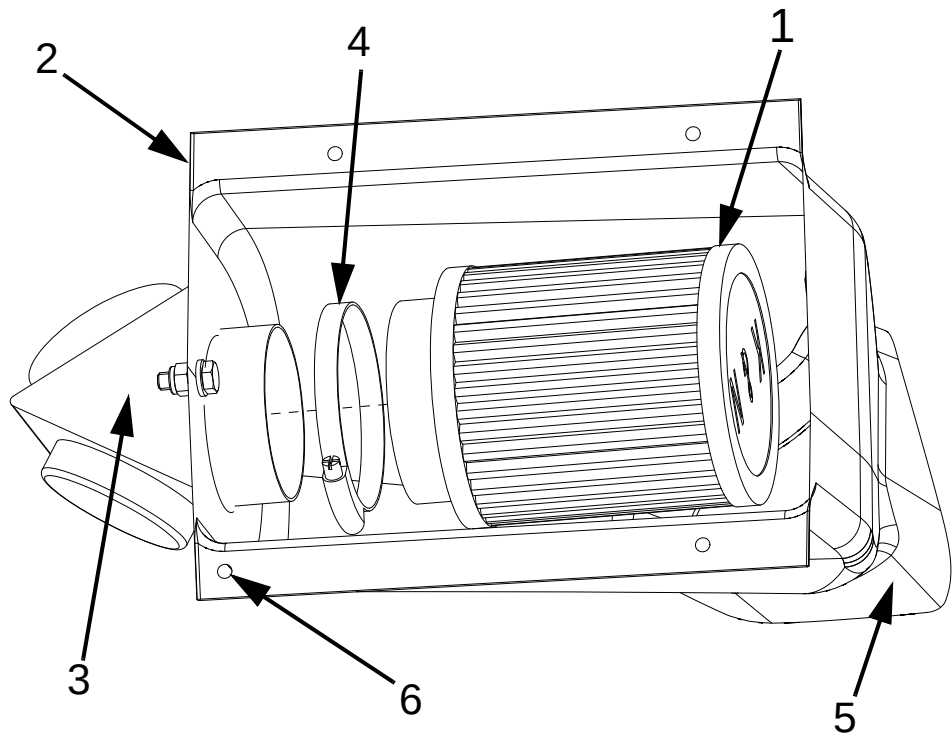

Fig. 71-14a Air Filter Housing, Air Filter and Alternate Air Door
The alternate air door is attached to the left (in the direction of flight) of the air filter housing. The air filter attaches to the right (in the direction of flight) of the alternate air door. The alternate air door has an inlet direct from the engine compartment. A flap in the alternate air door can select either filtered or warm, unfiltered air. See Fig. 71-14a.
The air filter housing is made of GRP. It has a connection between the air intake assembly and the upper cowling. Four cylindrical bolts attach the air filter housing to the firewall. See Fig. 71-14a.
The air filter is a K&N RU-0610 high-flow air filter. The air filter locates on the air filter housing, on the right of the firewall. It is held to the left (in the direction of flight) of the alternate air door by a clamp. See Fig. 71-14a.
- (1) Remove the engine cowlings. Refer to the airplane manufacturer's specifications.
- (2) Disconnect the airplane main battery refer to Chapter 24, Section 24.30, Maintenance Practices.
- (3) Remove the air filter housing. To do this, loosen the four cylindrical bolts. See Fig. 71-14a.
- (4) Loosen the clamp. See Fig. 71-14a.
- (5) Pull the air filter to the right and clear of the air filter housing.
- (1) Make sure that the new clamp is in position on the air filter.
- (2) Put the air filter in position on the air filter housing. See Fig. 71-14a.
- (3) Tighten the clamp. See Fig. 71-14a.
- (4) Connect the airplane main battery refer to Chapter 24, Section 24.30, Maintenance Practices.
- (5) Install the engine cowlings. Refer to the airplane manufacturer's specifications.